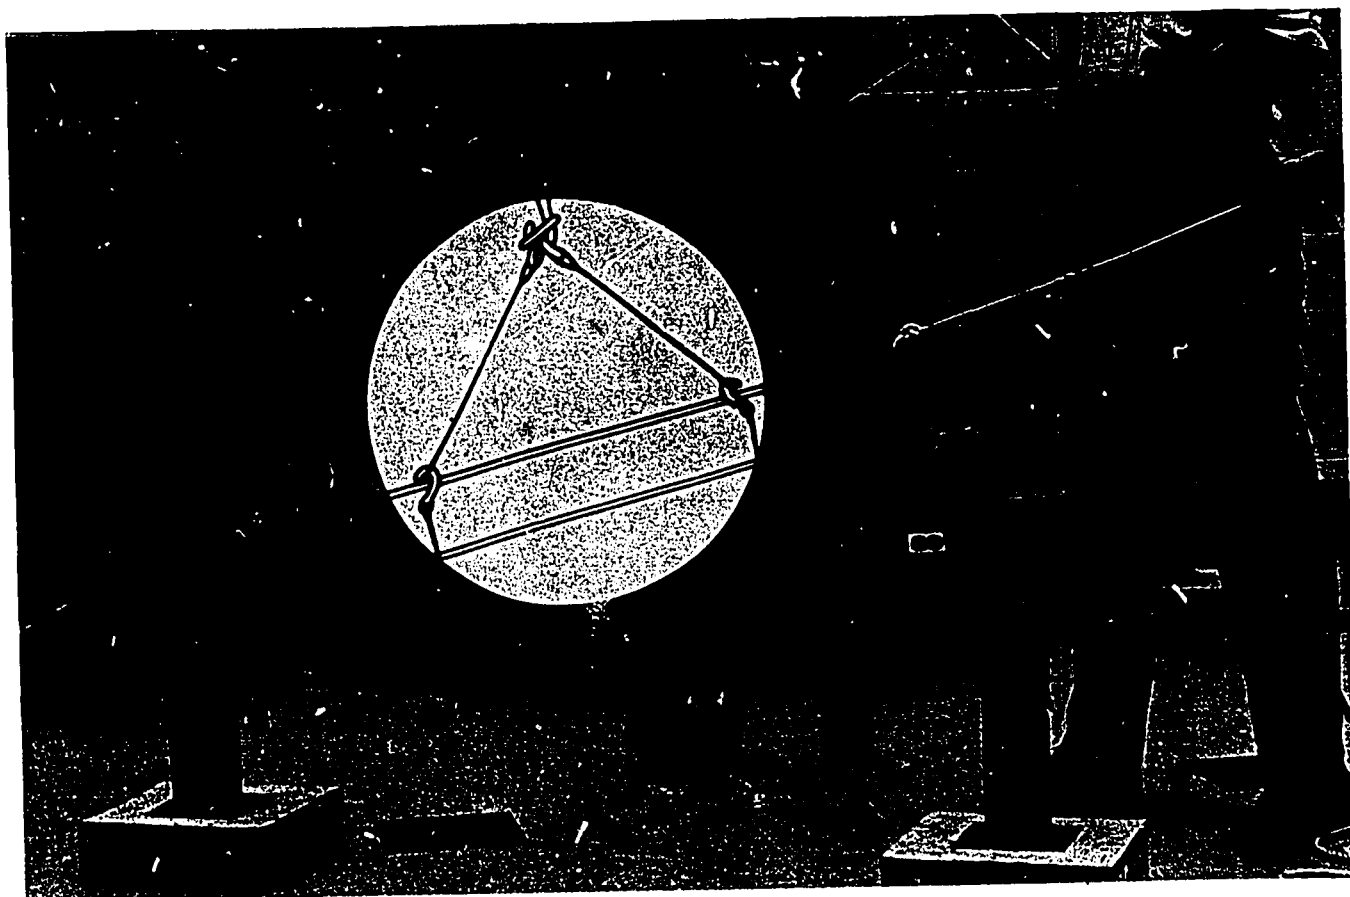

Fig. 45B-2. Choke Set
- c. The choker setter should set the chokers in the middle of the steel member, then spread them about 1'. When the choker is set correctly, the beam will remain horizontal when hoisted. See Fig. 45B-2. Before setting the choker, mark the center of each beam with chalk to prevent the beam from being lifted off balance.
7. **Tag line holders:** A tag line is a rope tied to the end of the member being hoisted. The tag line holder's job is to control the beam swing and help guide it into position during the hoisting procedure. See Fig. 45B-3.
8. **Signaler:** This worker's job is to give signals or directions to the boom operators and rigging workers. The more commonly used signals are given in Fig. 45B-4.